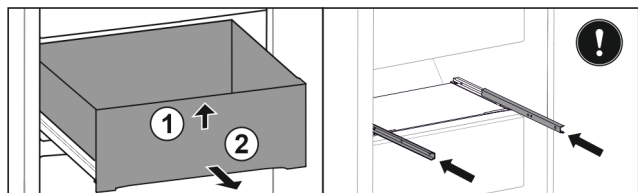

Fig. 106
- ▶ Lift up drawer at the front. Fig. 106 (1)
- ▶ Remove drawer to the front. Fig. 106 (2)